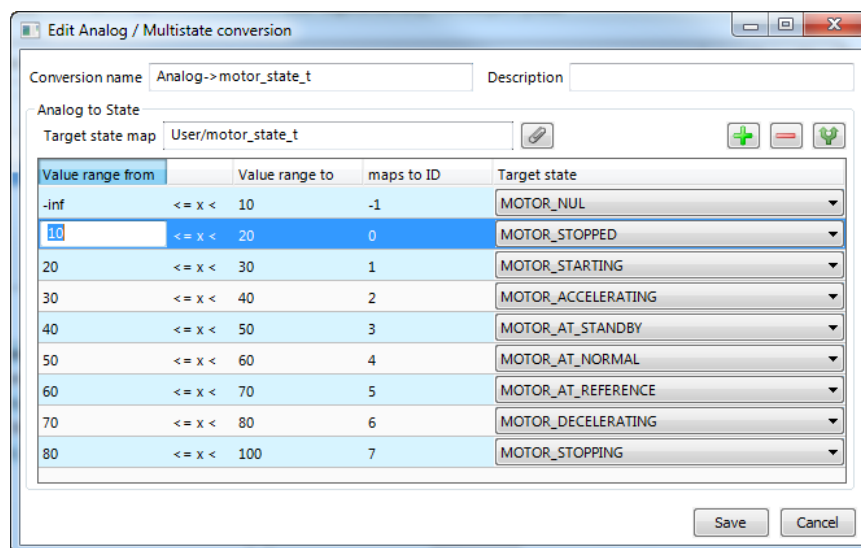

Figure 205: Edit an analog to multi-state conversion.
10. An example for editing an analog to multi-state value conversion is shown in Figure 205. Enter a **Conversion name**, then edit the **Value range from** column and select the desired **Target state** mapping.